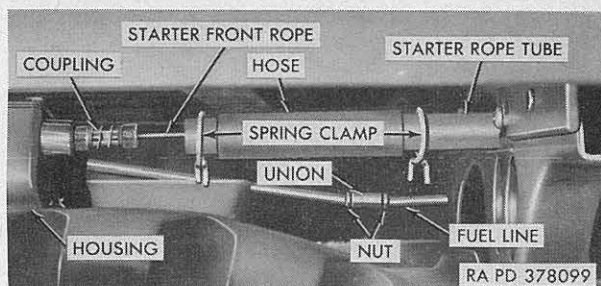

Figure 28. Coupling between starter front and rear ropes.
- (1) Remove two spring clamps securing hose between engine starter rope tube (fig. 28) and starter rope pulley housing, and move clips and hose forward on tube as shown in figure 28. Push front sleeve of coupling to rear and remove engine starter front rope.
- (1) Push ball end of engine starter rope into tube at front edge of platform as far as possible. Push front sleeve of coupling (fig. 28) to the rear, push ball end of starter rope into coupling and release sleeve. Push hose to rear onto starter rope pulley housing and secure with one spring clamp at each end of hose.
*i.* Slide the two spring clamps (fig. 28) securing hose between starter rope pulley housing and starter rope tube off hose and move clamps and hose forward on tube as shown in figure 28. Disconnect starter front rope from front end of coupling.
e. Connect starter front rope (fig. 28) into front end of coupling. Slide hose on starter rope tube to rear onto starter rope pulley housing and secure to housing and tube with spring clamps.
flywheel). Position clutch pressure plate (fig. 28) against clutch disk, and secure plate to flywheel with six  $\frac{5}{16}$ -18NC x  $\frac{5}{8}$  special hex-head screws and lockwashers tightened to a torque of 14 to 19 pound-feet.